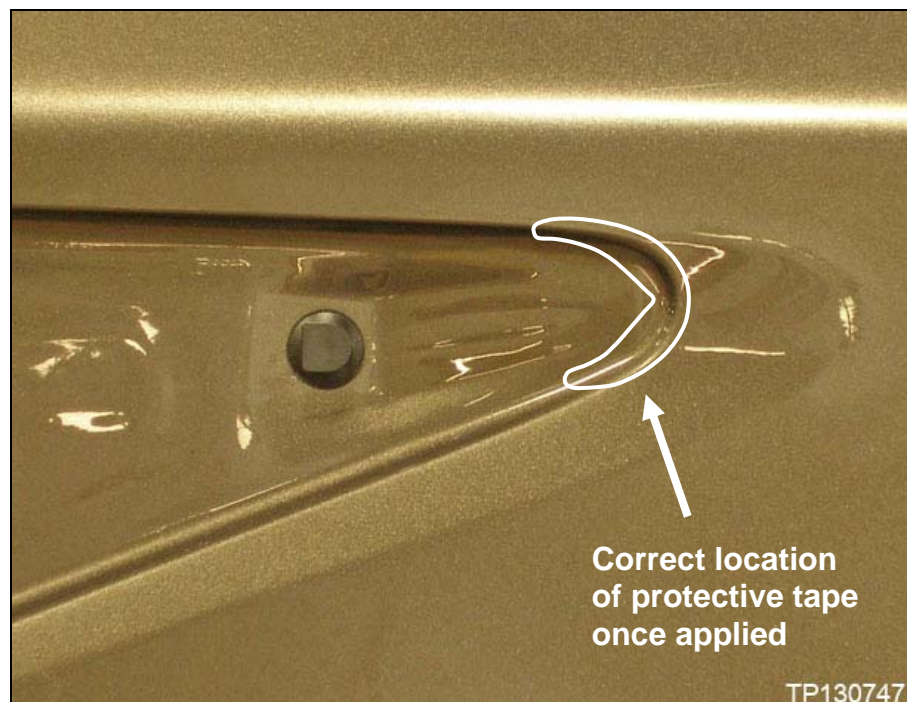

Figure 4
- Figure 4 shows where the protective tape ends up when applied.